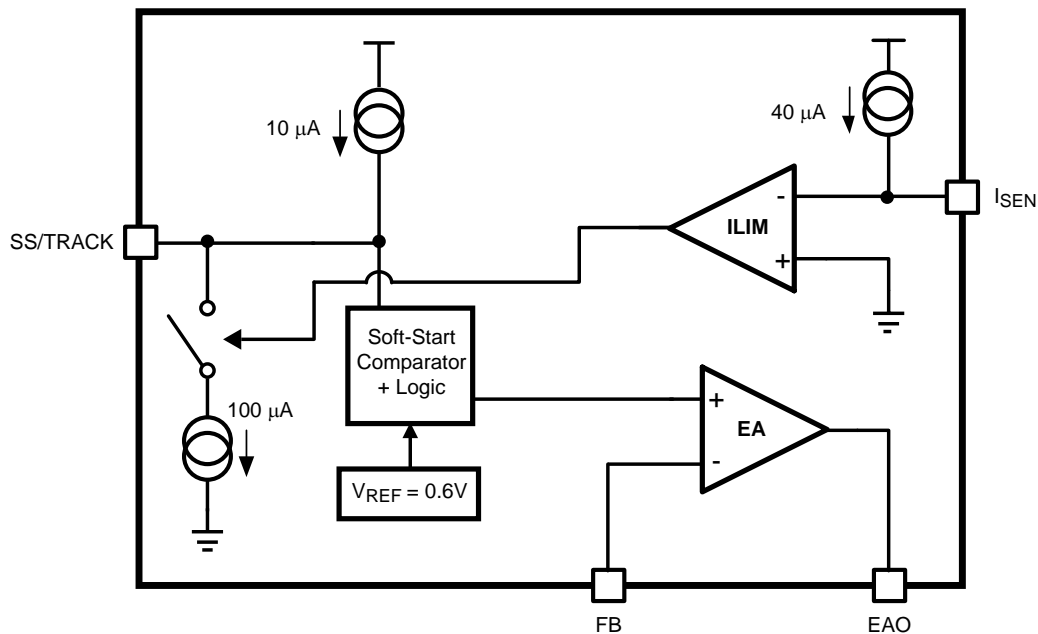

Figure 2. Error Amplifier and Current Limit Block Diagram
In a typical output short circuit to ground event, the input differential across the error amplifier (EA) will try to force maximum duty cycle pulses. This response increases the average inductor current every cycle until the inductor current exceeds the current limit threshold. In order to minimize the time period in which peak inductor current exceeds the current limit threshold, the LM274X discharges the soft-start (SS) capacitor. Once the SS pin voltage (V_{SS}) is lower than the reference voltage (V_{REF}), V_{SS} will take control of the non-inverting input of the EA and will reduce the duty cycle during this condition. For a simplified block diagram, see Figure 2.